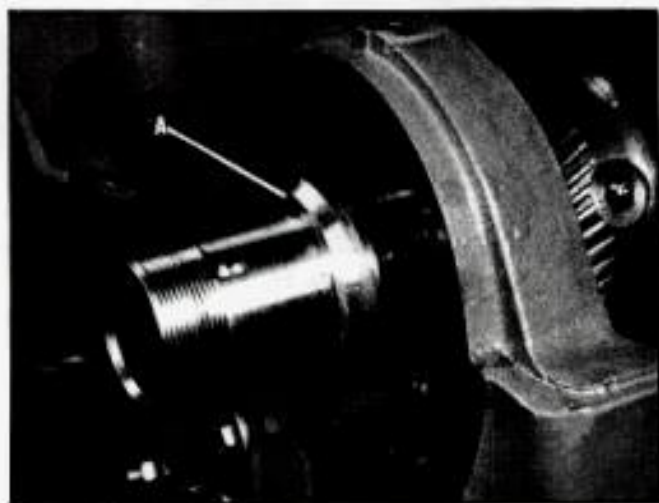

Fig. 38.
12. Remove spindle spacer (A) Fig. 38.
8. Replace spacer (A) Fig. 38, with chamfered end toward the outside.